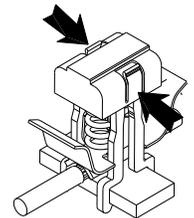

Fig. 22
- unscrew the screw until space is created for inserting the shielding of the shielded cable A1)(Fig. 22);
- pull the indicated tabs upwards and lift until locked in the open position B1)(Fig. 22);